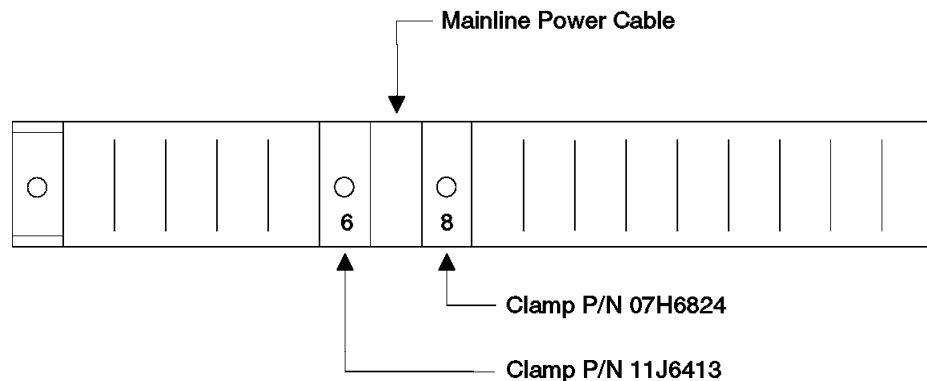

Figure 121. 2105 Model 100 Front and Rear Tailgate Cable and Cable Clamp Locations (5007450m)
- Front Tailgate, install front mainline power cable between tailgate cable clamps 6 and 8, see Figure 121
- Rear Tailgate, install rear mainline power cable between tailgate cable clamps 6 and 8, see Figure 121
- Install front mainline power cable between front tailgate cable clamps 6 and 8, see Figure 121
- Install rear mainline power cable between rear tailgate cable clamps 6 and 8, see Figure 121